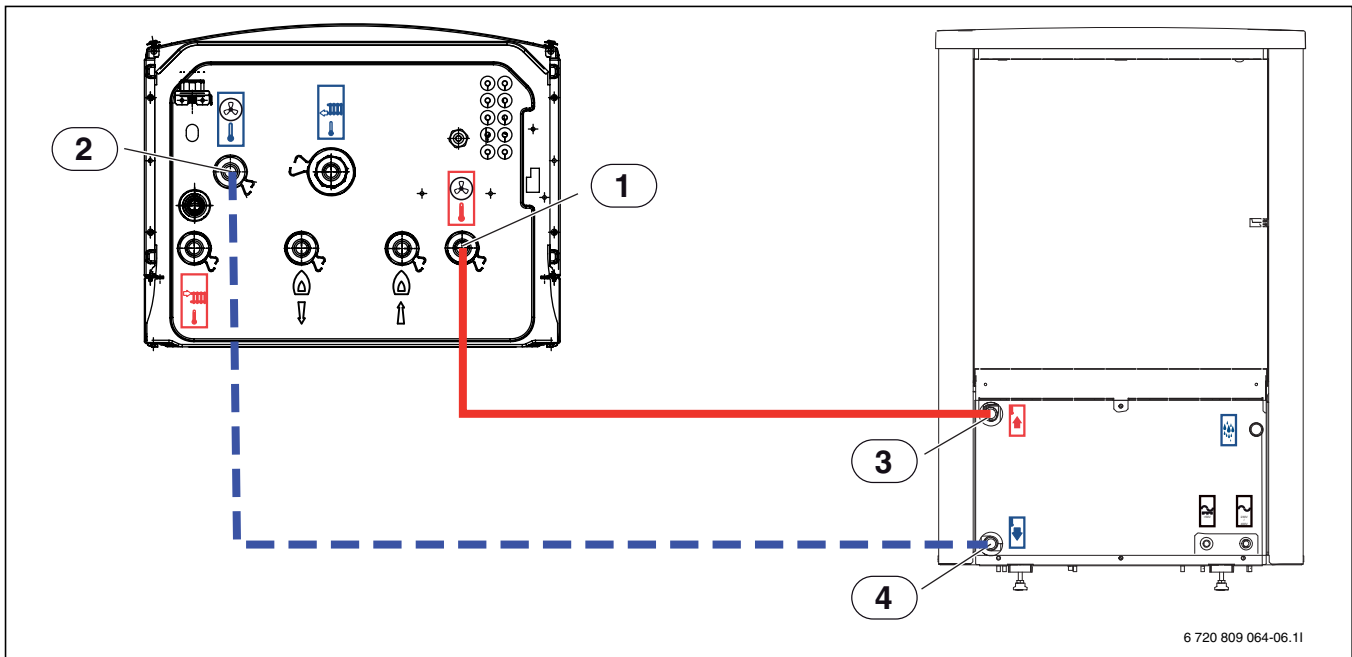

Fig. 18 Connection of the heat pump module with mixing valve for external booster heater to the heat pump
- ▶ Connect the flow from the heat pump [3] to the heat transfer medium in [1] Figure 18.
- ▶ Connect the return to the heat pump [4] to the heat transfer medium out [2] figure 18.